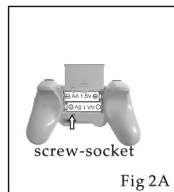

Fig 2A
1. Open the cover of battery case located in the back of controller, inserts 2 pcs of 1.5V AA batteries into the battery case, and then screw the cover (Fig 2A).